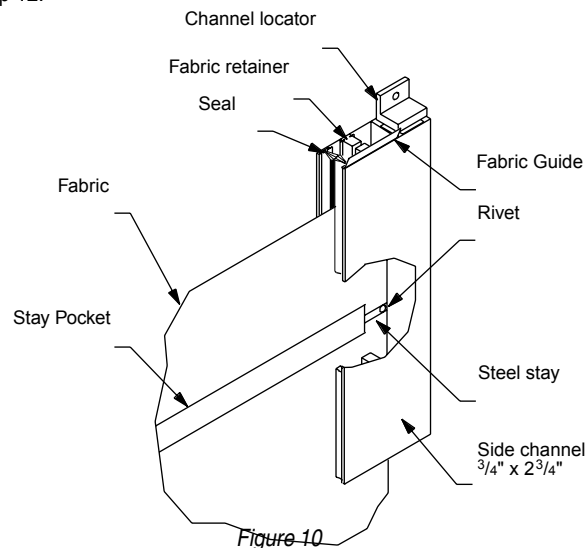

Figure 10
- ⑩ Check MICRODOOR fabric. With fabric and slat all the way up, pull the slat bar forward, out of the head box and in front of the side channels. Activate the operator (crank, spring roller, bead clutch, or electric) to completely lower the MICRODOOR fabric. Repeat several times. With the fabric hanging in front of the side channels, check fabric hang. The MICRODOOR fabric should be hanging straight and equally spaced between the outside edges of the side channels. If the fabric is not hanging properly, adjust the head box by raising or lowering one end of the head box to bring fabric into proper alignment. Operate the MICRODOOR again to re-check fabric position. If functioning properly, run the MICRODOOR up to fully open position and re-insert slat bar and fabric into side channels (see Fig. 10). If misalignment still occurs, correct by sticking a small (approximately 2") piece of cloth tape directly to the roller to affect the direction the fabric runs. Fabric running off to the left may be corrected by placing the tape on the right end of the roller beneath the fabric. This, in effect, makes that end of the roller larger, causing it to take up more fabric. If this is a non-electric operated MICRODOOR, proceed to step 12.